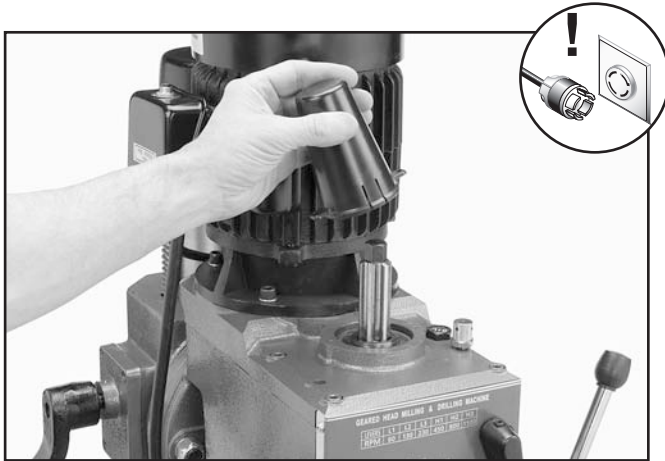

Figure 34. Drawbar and cover.
2. Remove the drawbar cap (see **Figure 34**).
4. Tap the top of the drawbar with the hammer. This will unseat the taper of the arbor from the spindle (see **Figure 34**).